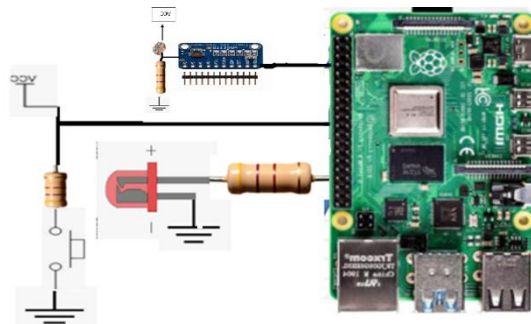

Fig 2 Analog-to-digital converter with Raspberry I2C bus interface
1. Configure the system and test it with an analog sensor: (ex the LDR and or a force sensor sensor) according to Fig 2.